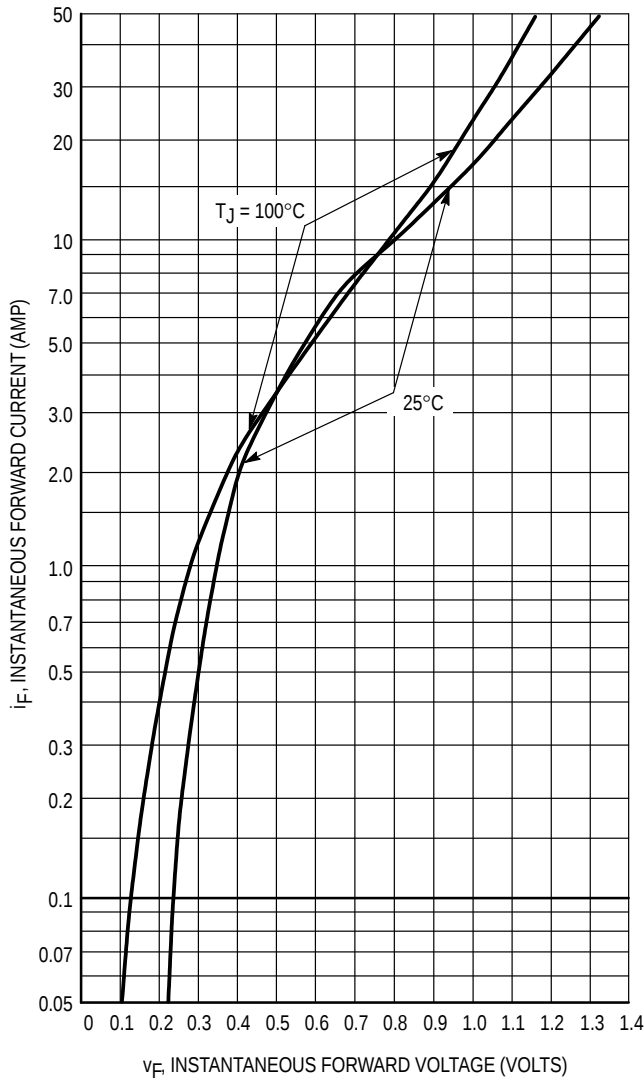

Figure 7. Typical Forward Voltage
**Values given are for the 1N5821. Power is slightly lower for the 1N5820 because of its lower forward voltage, and higher for the 1N5822. Variations will be similar for the MBR-prefix devices, using $P_F(\text{AV})$ from Figure 7.